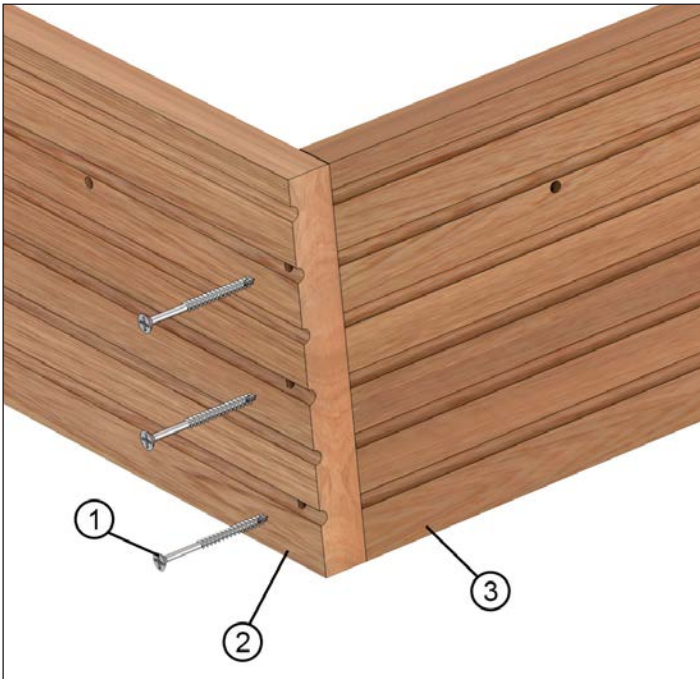

Figure 1
3. Using the predrilled holes, apply screws at head jamb and side jamb joints. See figure 1 for size and placement of screws.